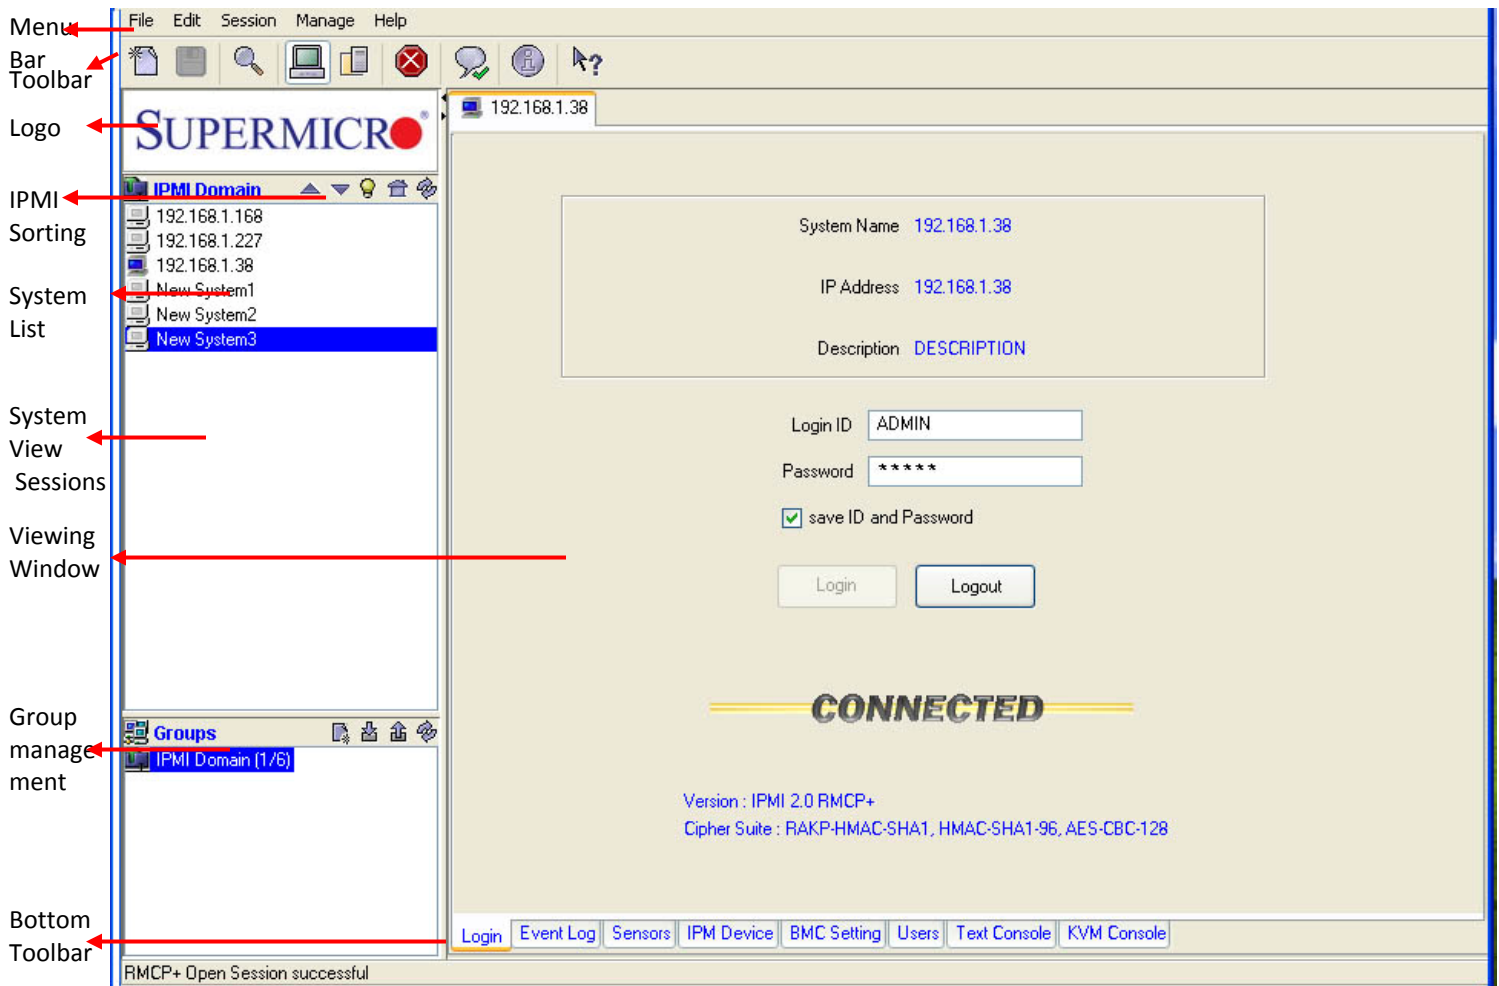
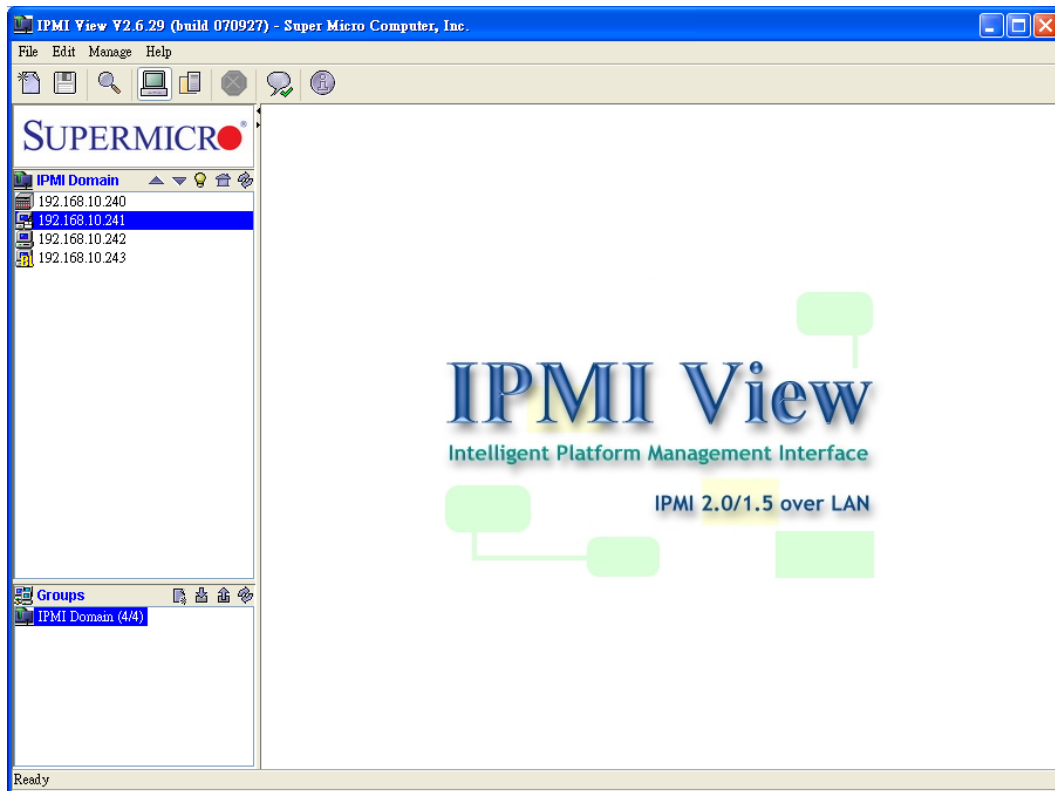

Figure 3-1
Figure 3-2
As shown in Figure 3-1, there are several components in the IPMIView window (Figure 3-2):
- 2) **Toolbar**: contains functions that allow you to execute commands quickly. Click the icons on the toolbar to add a new system, save the current configuration settings, to discover IPMI devices, to access group management, to discontinue the IPMIView section and to access the help menus. See Figure 3-2 for details.